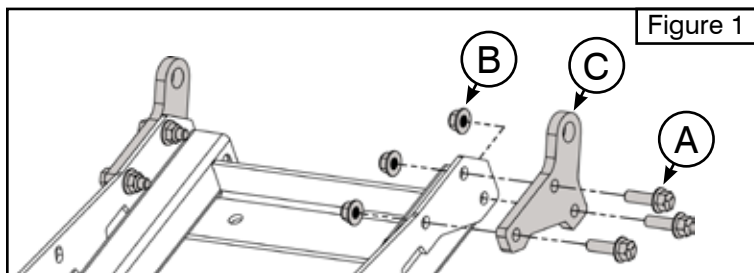

Figure 1
1. If installed, remove pin attachment brackets (C) and hardware (A and B) as shown in **Figure 1**. If not installed, proceed to **Step 2**.